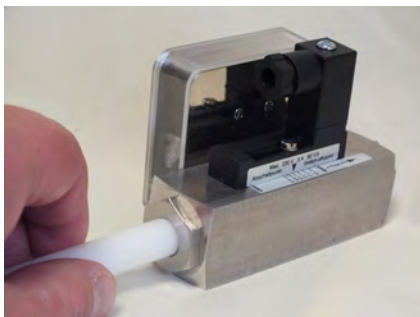

Fig. 61: Check for smooth operation
12. ➤ Check the float for ease of movement (Fig. 61) by applying pressure with the test rod.